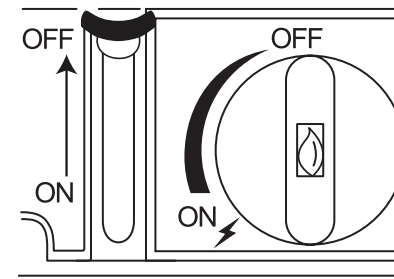

Fig. 1
1. Turn the Ignition Knob to 'OFF' and set the Cartridge Lock lever to 'OFF'. (Fig. 1)